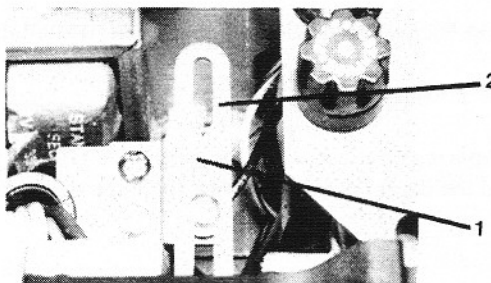

Figure 8
3. Loosen the trigger adjustment screw (Figure 8, Number 1) and slide the trigger assembly (Figure 8, Number 2) to the desired position. (**Note:** Moving the trigger assembly towards you places the registration closer to the edge of the document. Moving the trigger assembly away from you places the registration farther from the edge of the document.)